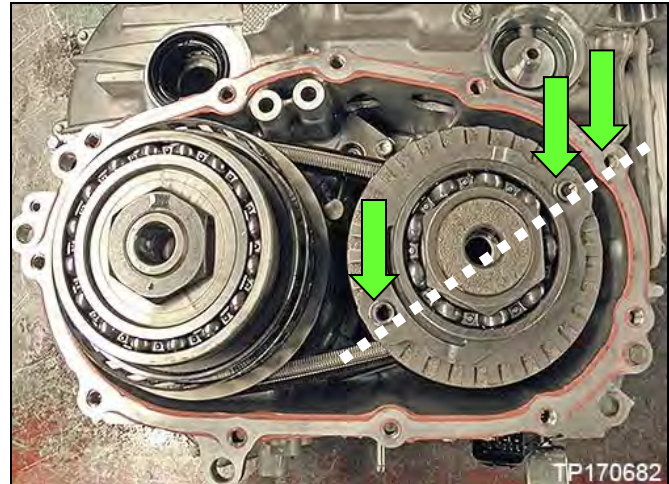

Figure 5J
5. Align the primary pulley bearing retainer bolt holes with the bolt hole on the case as shown in Figure 5J.